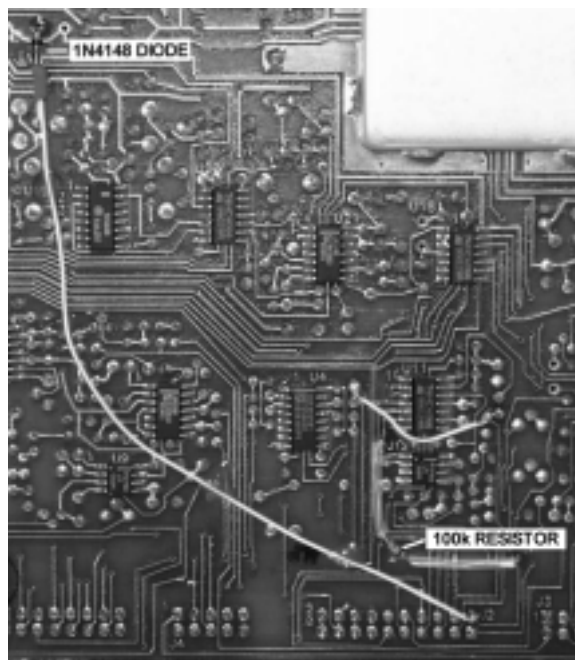

Figure 1 - DFP/DFR-1000 IF Board
- 5__ Bend the cathode lead (the lead closest to the end of the diode having the black band) 90°, insert it into the open solder pad as illustrated in Figure 1 below, and solder.
- 9__ If heat-shrink tubing and a heat gun are available, cut a 1/4" length of suitable heat shrink, slide over wire so that it completely covers the soldered connection, and apply heat (see Figure 1). Otherwise, place a small piece of electrical tape directly underneath the soldered connection so that it is completely insulated from the underlying PC (printed circuit) board.
- 10__ Bend a loop in the other end of the wire using the long-nosed plier and solder to J2 pin 2 as illustrated in Figure 1. Route the wire along the board as illustrated.
- 11__ Cut a 1-1/8" length of #26 solid insulated wire and trim 1/8" of insulation off each end. Bend loops at both ends using the long-nosed plier and solder as illustrated in Figure 1 (route the wire near U11 as illustrated). Note that this wire is connected to double solder pads at each end. Since the two pads in each pair are connected to each other via PC board traces, each wire end can be soldered to either pad of the pair.
- 12__ Obtain a 100k 1/8 watt 5% carbon film resistor and trim each lead to 7/8". Install 3/4" lengths of insulated sleeving on each end and install the resistor as illustrated in Figure 1. Note that both resistor leads are inserted through small-diameter vias (vias are small solder pads with plated-through holes that allow connections between the top- and bottom-sides of the PC board). One of these vias is connected to U11 pin 6 and the other to J2 pin 2 (the same pin to which the 4-3/4" wire was connected in step 10 above). Route the resistor as illustrated.
- 4__ Cut a ½" length of #22 uninsulated solid wire and connect it between the two holes of JP1. To locate these two holes, refer to Figure 1 (one of the illustrations presented to facilitate the installation of MWO-03 above). Notice in Figure 1 that one of the holes of JP1 is used as a solder connection point for the 1N4148 diode (added for MWO-03 only; not included as part of this MWO). The other hole is 0.2" to the left of the first hole. Once the wire has been connected, solder at both holes, being sure to keep the wire low to the board.